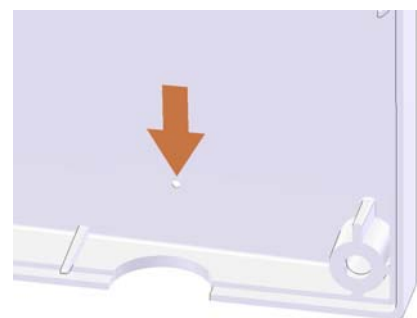

Figure 14: Cut 32 mm Hole for 22 mm Pipe (Rear of Unit)
3. Use template to mark position & cut a 32 mm hole (or nearest standard hole saw size) in rear cover for the 22 mm pipe (see *Figure 14*).